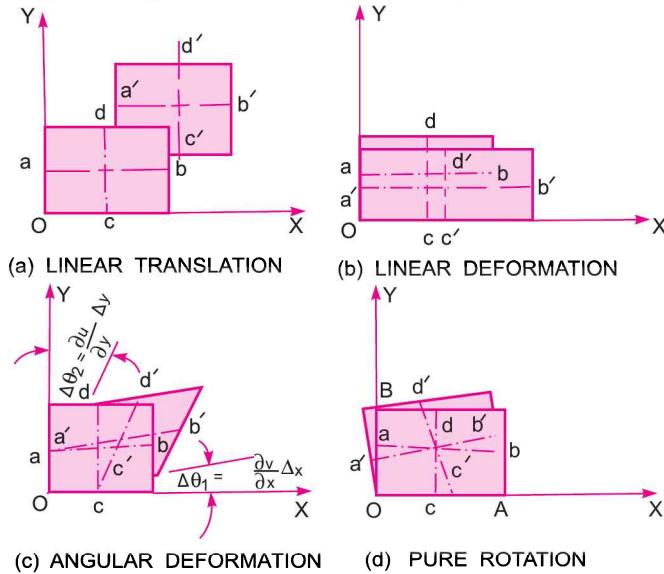

Fig. 5.11. Displacement of a fluid element.
**5.9.1 Linear Translation.** It is defined as the movement of a fluid element in such a way that it moves bodily from one position to another position and the two axes  $ab$  and  $cd$  represented in new positions by  $a'b'$  and  $c'd'$  are parallel as shown in Fig. 5.11 (a).
**5.9.2 Linear Deformation.** It is defined as the deformation of a fluid element in linear direction when the element moves. The axes of the element in the deformed position and un-deformed position are parallel, but their lengths change as shown in Fig. 5.11 (b).
**5.9.3 Angular Deformation or Shear Deformation.** It is defined as the average change in the angle contained by two adjacent sides. Let  $\Delta\theta_1$  and  $\Delta\theta_2$  be the change in angle between two adjacent sides of a fluid element as shown in Fig. 5.11 (c), then angular deformation or shear strain rate
**5.9.4 Rotation.** It is defined as the movement of a fluid element in such a way that both of its axes (horizontal as well as vertical) rotate in the same direction as shown in Fig. 5.11 (d). It is equal